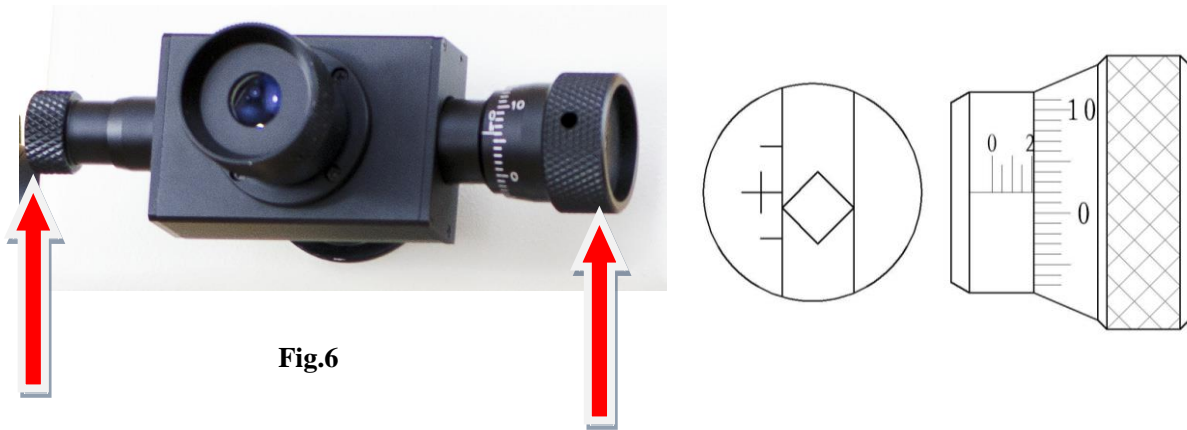

Fig.6
Rotate the Left Drum Wheel (17) as shown above to enable the inner side of left graduated line tangent to the left tip of the diagonal line of the indentation. Rotate the Right Drum Wheel (15) as shown above to enable the inner side of right graduated line tangent to the right tip of the diagonal line of the indentation (Fig.6).